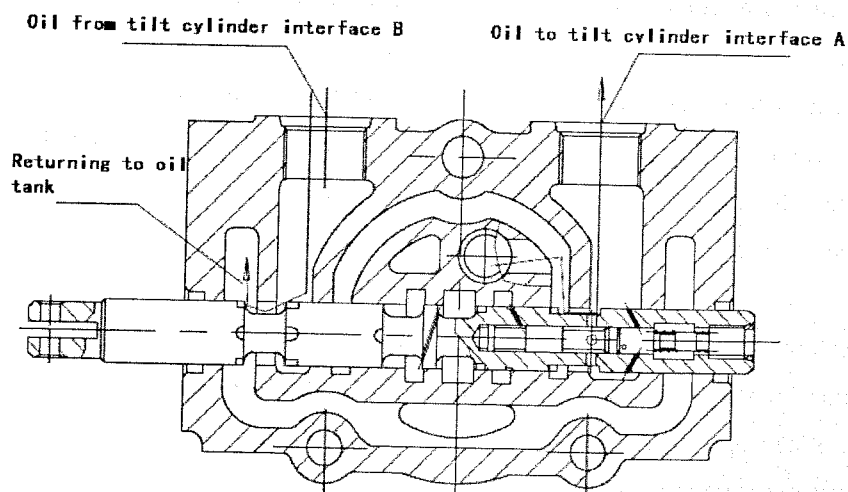

Fig 8-3
(2) Push-in Spool Valve (Fig 8-3):